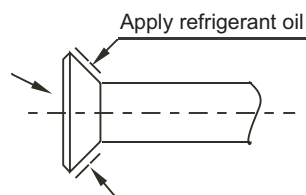

Fig.6-1
- b. Before screwing up the flared nut, apply refrigerant oil at the outer surface of the pipeline flare and the taper surface of the connection nut. Screw up the nut for 3~4 circles beforehand (see Fig.6-1).